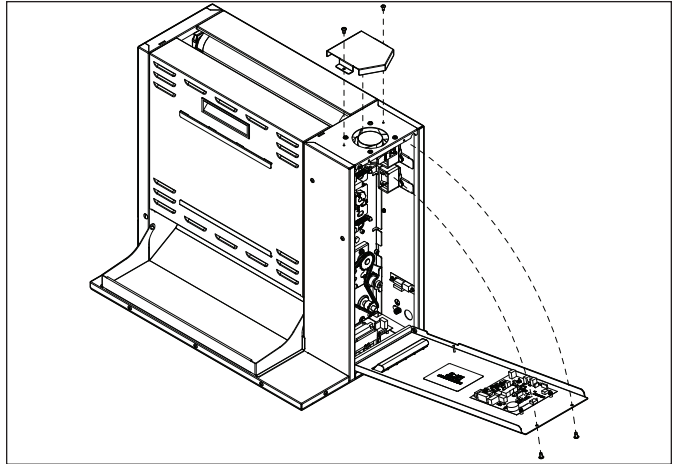

Figure 12. Accessing Top Cooling Fan
2. Facing the front of the toaster, move to the right Side Panel. Remove the 2 top screws from the right Side side Panel and lower the panel (Figure 12).